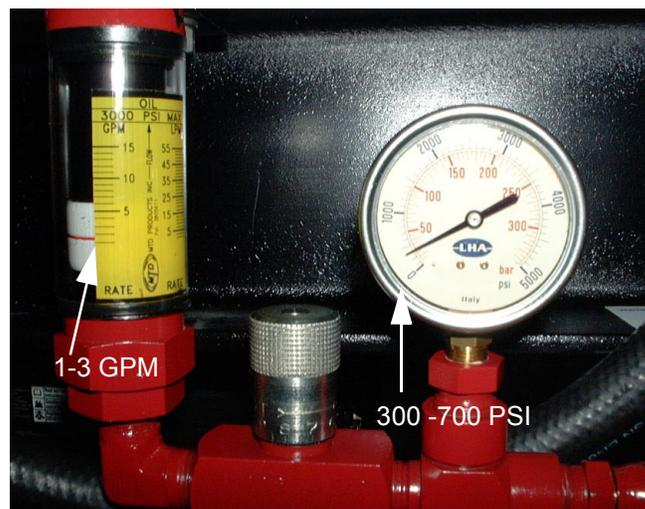

Figure 5
- Continue to close the needle valve slowly until the high volume check valve closes and the engine RPM returns to normal. ____ See Figure 5.